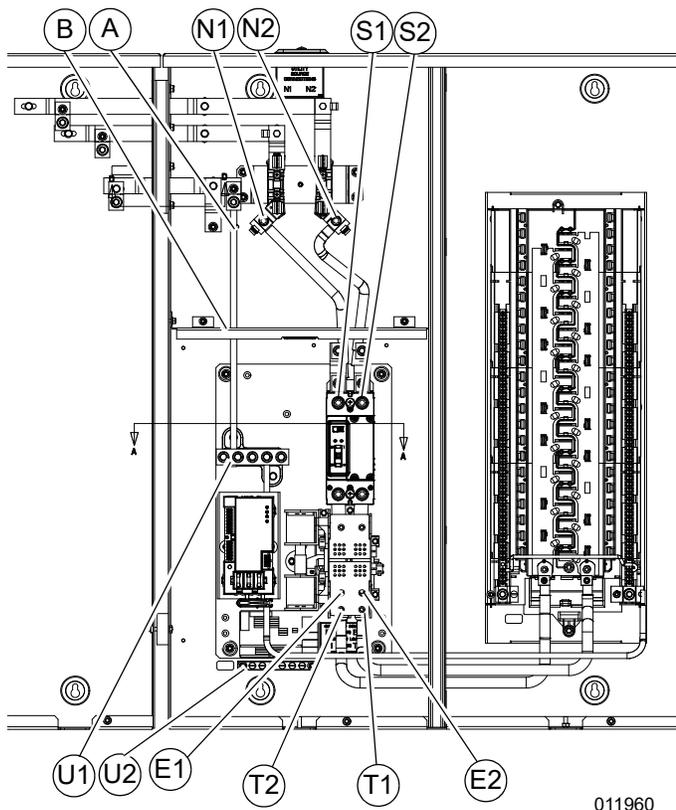

Figure 3-7. Wiring Connections
2. See Figure 3-7. Connect utility supply at the Four Jaw Meter Socket terminals N1 and N2. Follow torque specifications listed on the circuit breaker. Available utility entry points are the top, the bottom left or the bottom right. The wire duct is reversible for left or right wire entry applications as needed.
3. Connect utility grounded conductor to the Upper Neutral (U1) and Ground (U2) terminals. Neutral and Ground terminals are bonded to each other with a jumper wire (A).
1. See Figure 3-7. Connect generator to the generator terminals (E1 and E2) on the transfer mechanism.